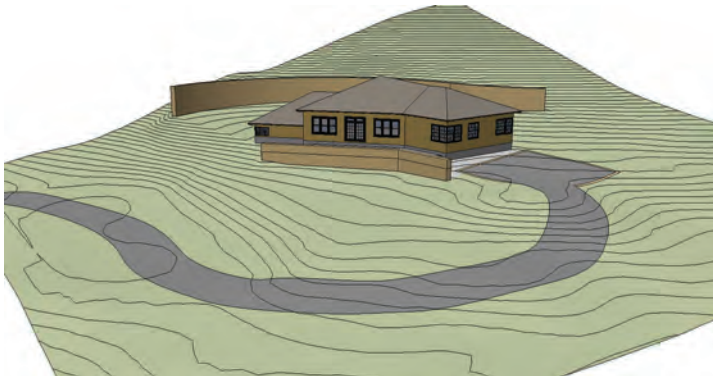

Fig. 15-31: New proposed contour lines are generated.
9. Using the Contours extension, which you can find on SketchUcation, generate new proposed contour lines (Fig. 15-31).